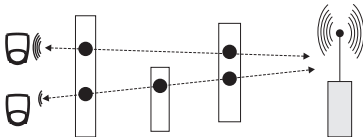

Figure 4. Minimizing the number of obstacles.
2. Minimize the number of obstacles between the control panel and the wireless devices – Figure 4.